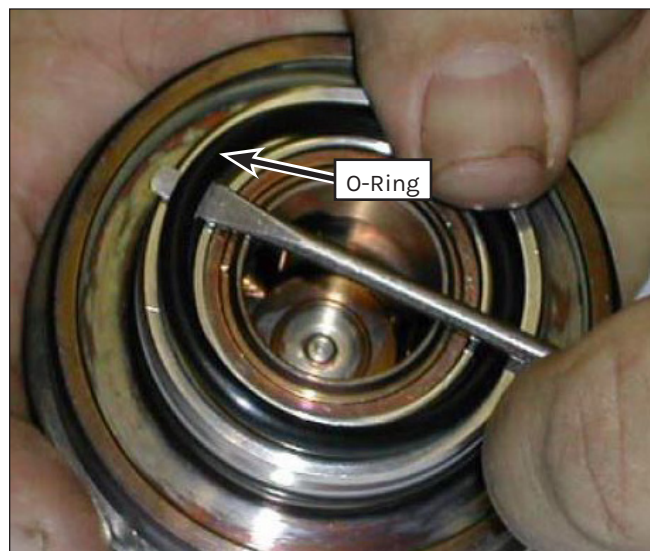

Figure 110: O-Ring Removal.
1. Remove the O-ring at each end of the valve (Figure 110). Discard the O-rings.